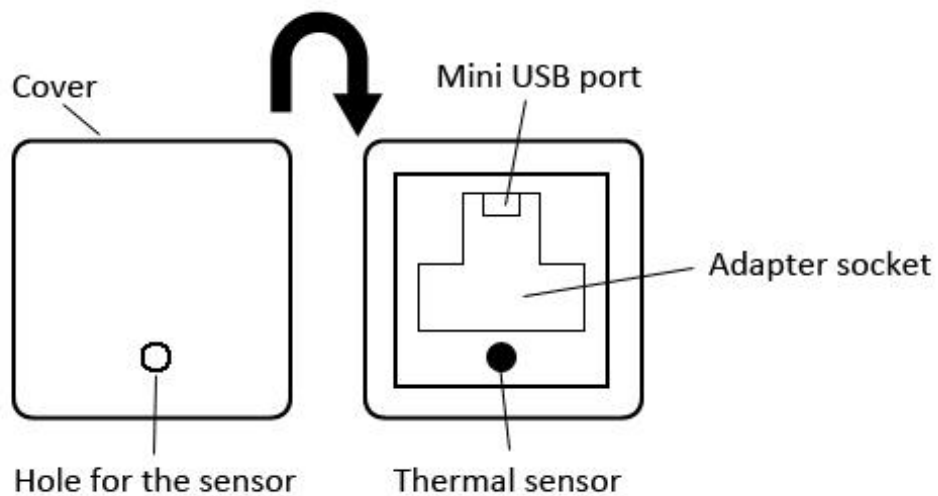

Figure 3 Bottom view of the complete product
- Face (2):** Connection interface and thermal sensor shown in Figure 3.
- Face (3) ~ (6):** Solar Panels